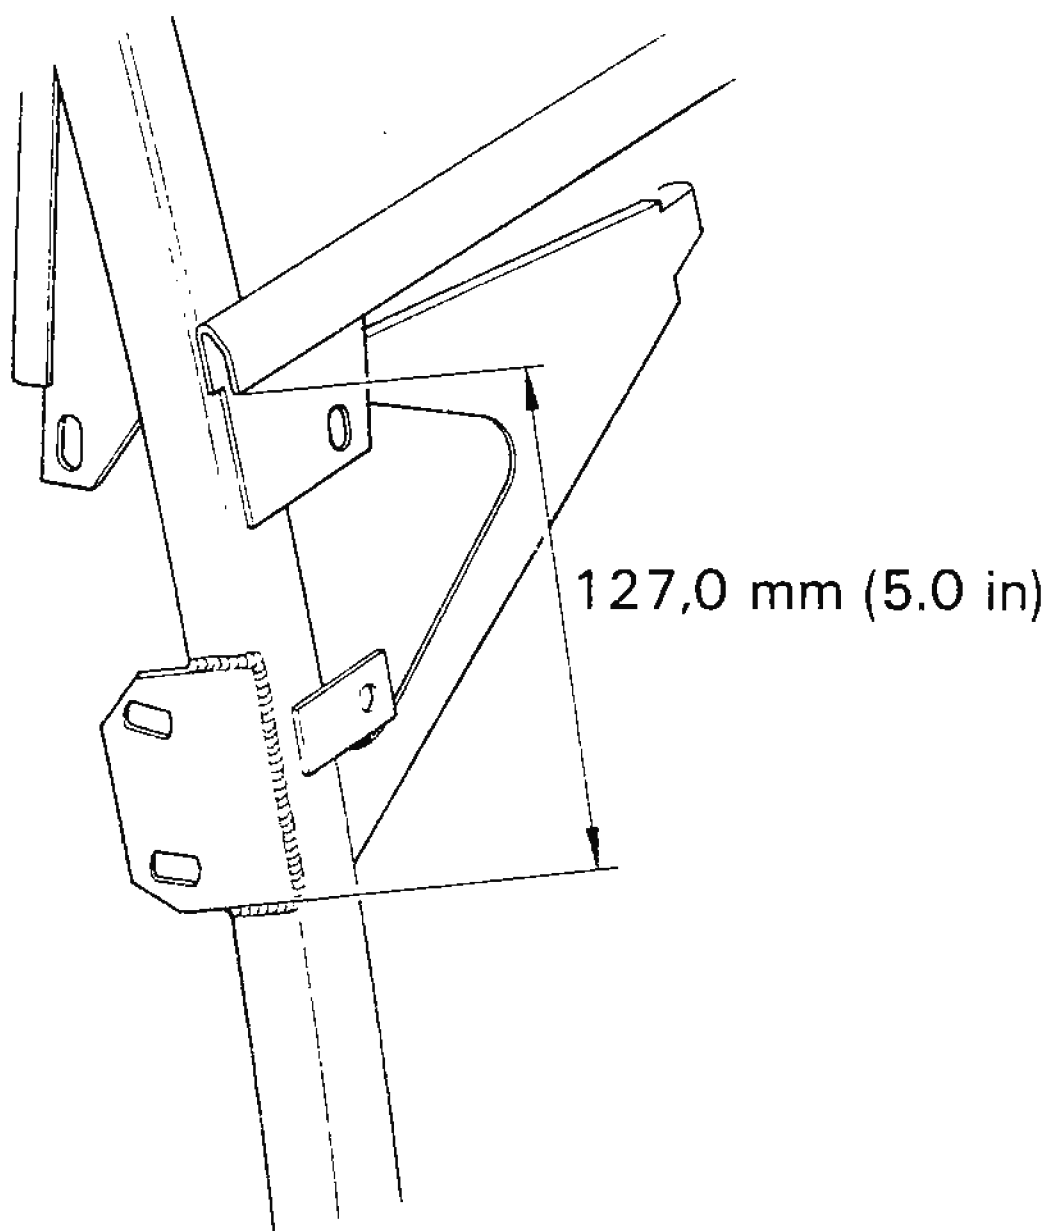

Fig. 13
8. Weld the plate in position as shown in figure 13.